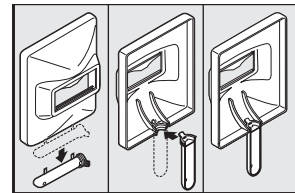

Figure 4
1. Cut detachable handle (WF2050, WF2054 & WF2058 only; WF2057 is supplied with a fully assembled helmet) away from shield. Trim the excess plastic to remove sharp edges (See Figure 4).
2. To attach the handle, place shield on a flat surface and press handle into place (See Figure 4).